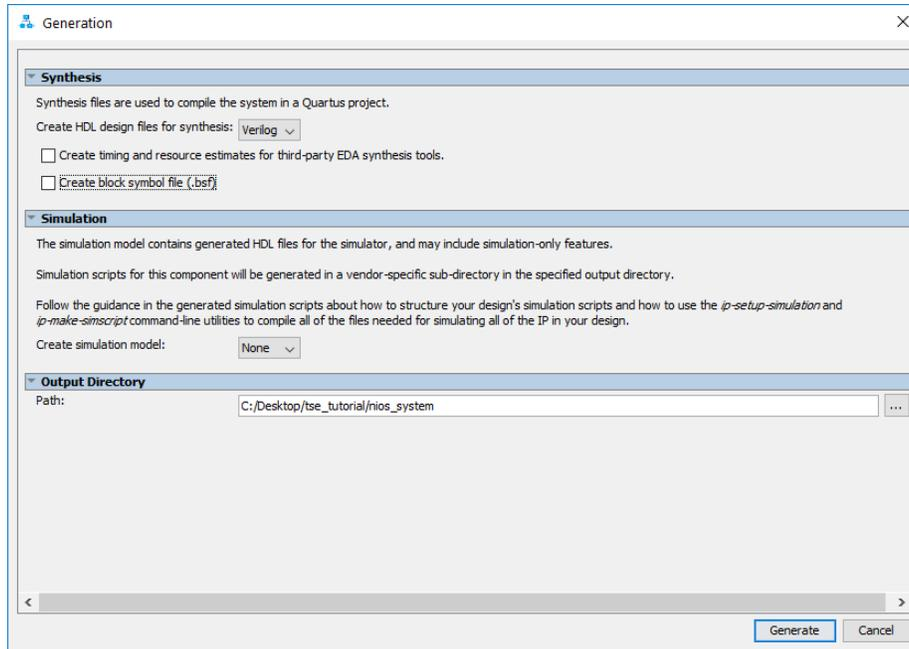

Figure 11. Settings for Generating Platform Designer.
- Uncheck the **Create block symbol file (.bsf)** in the **Synthesis** section as shown in Figure 11.